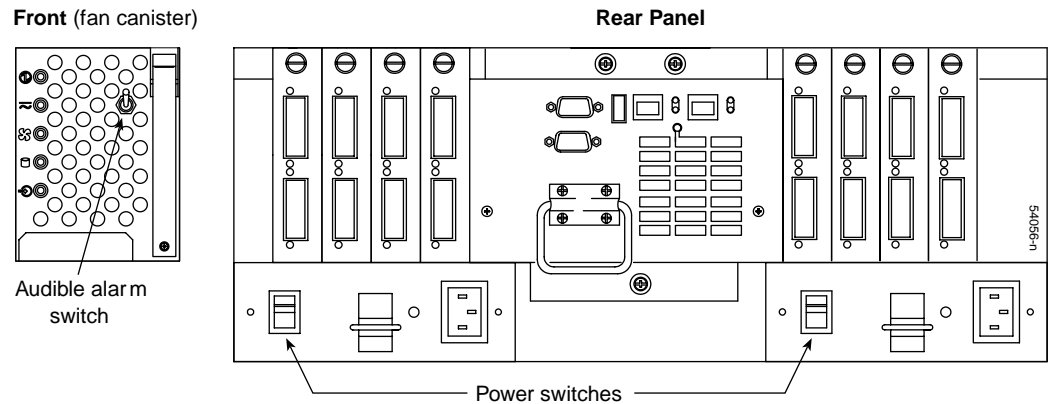

Figure 8-18 Power Switches and Alarm Switch on the Controller Enclosure
10. Turn on both power switches on the rear of each controller enclosure (see Figure 8-18).
11. Arm the optional alarm switch by setting it to the up position (see Figure 8-18).